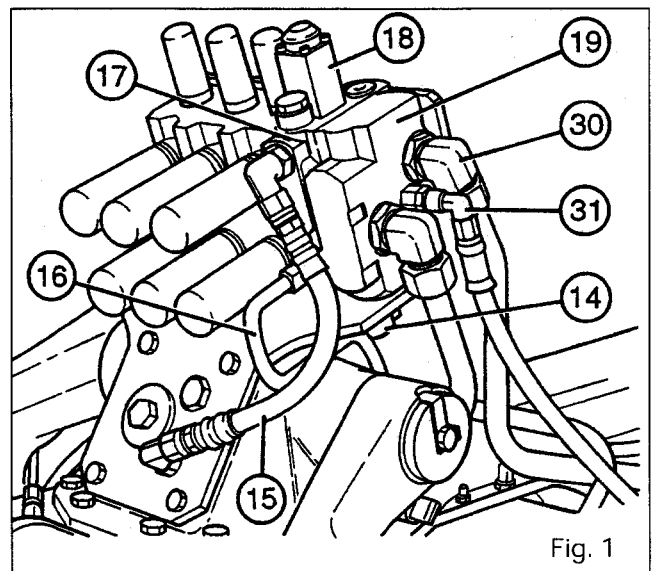

Fig. 1
- (1) Non-return valve keeping the hydraulic fluid in the rams
- (2) Spool assembly used during the lowering phase
- (4) Control spool
- (5) Flow regulating spool
- (6) Shock valve
- (9) Flow regulating spool spring
- (10) Control spool spring
- (11) Spool assembly spring
**Electrical section (solenoid valves) (Fig. 1)**
- (14) Lifting solenoid valve
- (18) Lowering solenoid valve
**Designation of ports****On inlet unit (19) (Fig. 1)**
- (30) HP supply from the variable-displacement pump via the override unit or units (according to option)
- (31) LS signal to the variable-displacement pump controller via the override unit or units
**On lift control valve (17) (Fig. 1)**
- (15) Return hose to housing